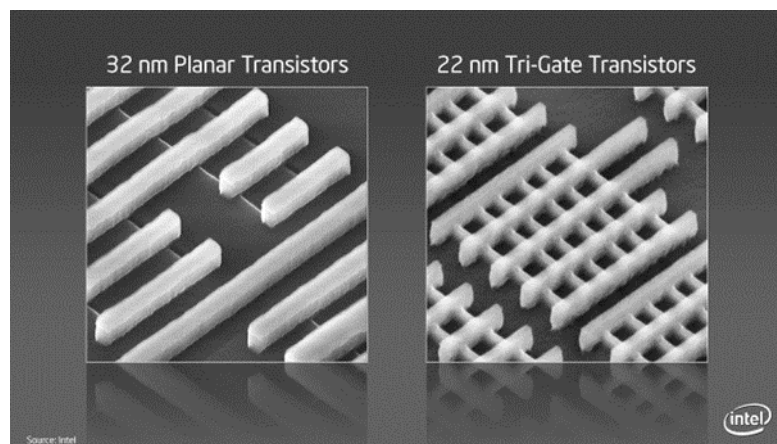

Figure 4[b]
- (ii) Obtaining higher resolution images through conventional lithography is the main difficulty in developing sub-22 nm feature on substrate surface as shown in Figure 4[b] below. Suggest ONE (1) photo exposure lithography technique and through sketches, explain that process in detail.